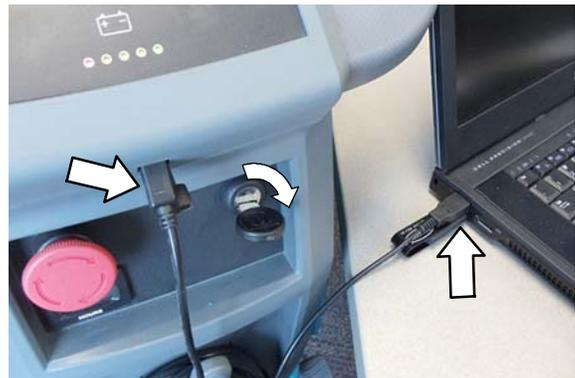

Fig. 11
3. Connect the USB cable to computer and to the USB port on machine as shown. Turn the key switch to the on position (Figure 11).